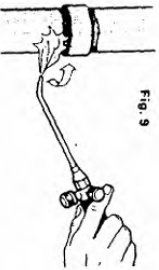

Fig. 9
7. When the flux appears liquid and transparent, start sweeping the flame along the axis of the joint so maintaining heat on the parts to be joined, especially toward the base of the socket of the fitting (Fig. 9). (The flame must be kept moving to avoid bumping the tube or the fitting).